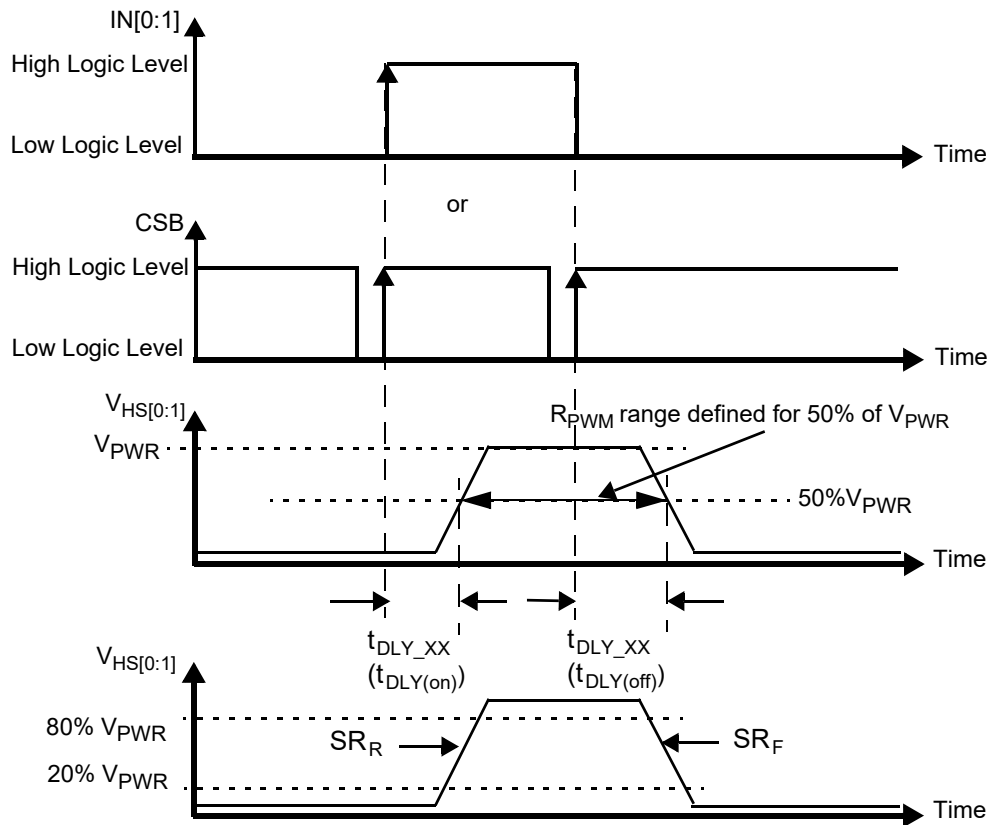
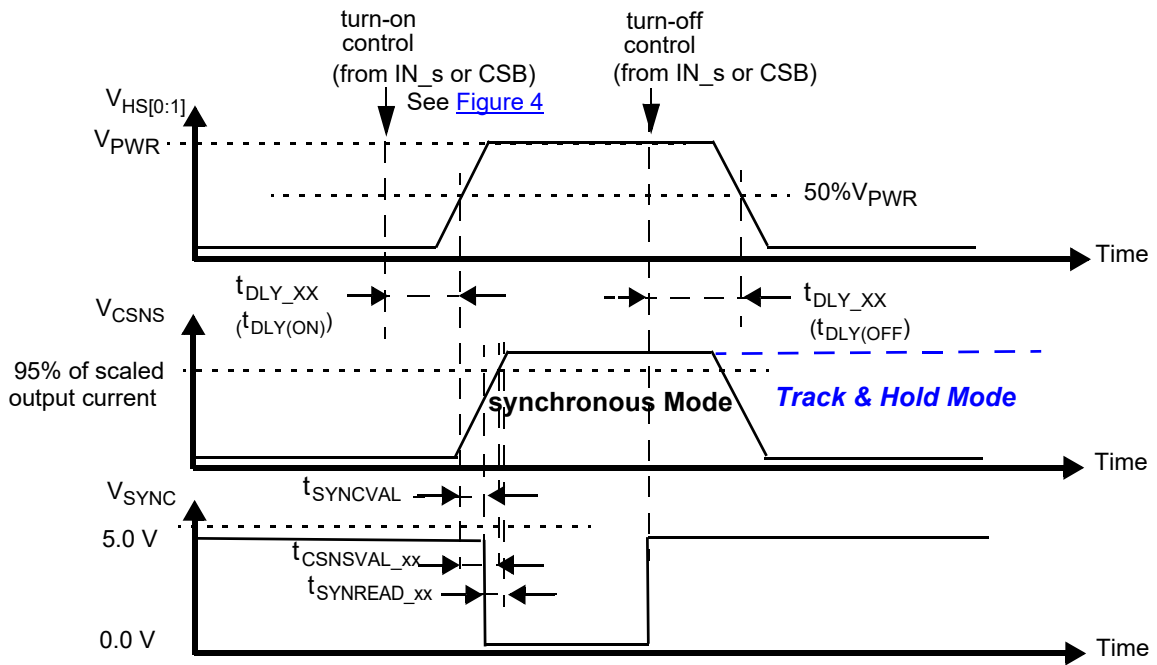

Figure 4. Output voltage slew rate and delay
Figure 9. Synchronous and Track & Hold current sensing modes: associated delay and settling times
- Rising and Falling edge slew rates specified for a 20 % to 80 % voltage variation on a 10.0 Ω resistive load (see Figure 4).
- Time required to switch off the channel after detection of overtemperature (OT), overcurrent (OC), SC or UV error (time measured between start of the negative edge on the FSB pin and the falling edge on the output voltage until $V(HS[0:1]) = 50\%$ of V_{PWR}).
- Settling time ($= t_{CSNSVAL_XX}$), SYNC output signal delay ($= t_{SYNVAL_XX}$) and Read-out delay ($= t_{SYNREAD_XX}$) are defined for a stepped load current ($100\text{ mA} < I(LOAD) < IOCLX A \text{ FOR } CSNS_RATIO_S = 1$, AND $300\text{ mA} < I(LOAD) < IOCLX A_0 \text{ FOR } CSNS_RATIO_S = 0$). (see Figure 9 and Output current monitoring \(CSNS\)).
To synchronize current sensing with an external process, the SYNC signal can be connected to a digital input of an external MCU. SYNC is asserted logic low when the current sense signal is accurate and ready to be read. The current sense signal on the CSNS pin has the specified accuracy $t_{SYNREAD_XX}$ seconds after the falling edge on the SYNC pin (Figure 9) and remains valid until a rising edge is generated. The rising edge that is generated by the SYNC pin at the turn-OFF instant (internal or external) may also be used to implement synchronization with the external MCU. Parameter $t_{SYNIVAL_XX}$ is defined as the time between the instant at the middle of the output-voltage rising edge ($HS[0:1] = 50\%$ of V_{PWR}), and the instant at which the voltage on the SYNC-pin drops below 0.4 V (V_{SOL}). The SYNC pins of different devices can be connected together to save micro-controller input channels. However, in this configuration, the CSNS function of only one device should be active at a time. Otherwise, the MCU does not determine the origin of the SYNC signal. The SYNC pin is open drain and requires an external pull-up resistor to V_{DD} .